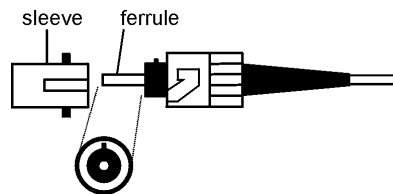

Figure 3: Connector Cleaning (connector type can vary)
1. Blow the sleeve with filtered compressed air (Figure 3).